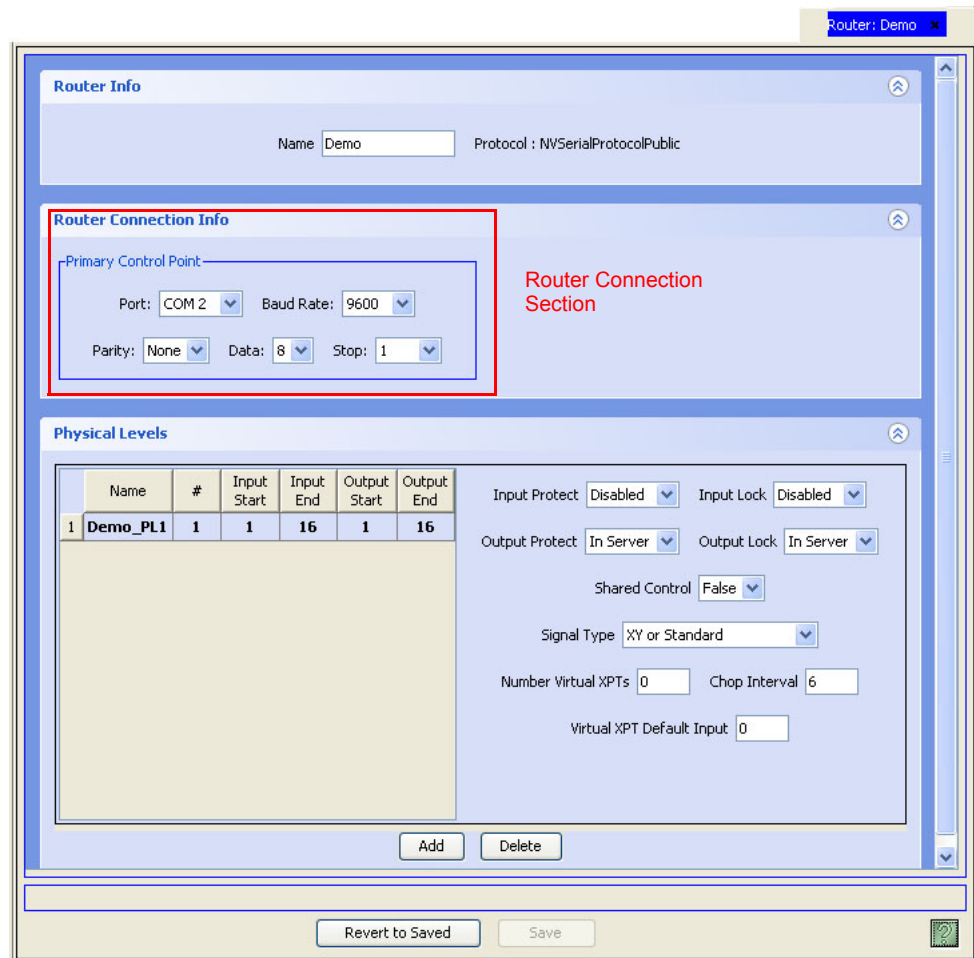

Figure 7-4. Router Details Page for Serial Protocol
- For serial, from the drop-down fields select the serial port settings for the router (Figure 7-4). The settings differ depending on which protocol was selected.